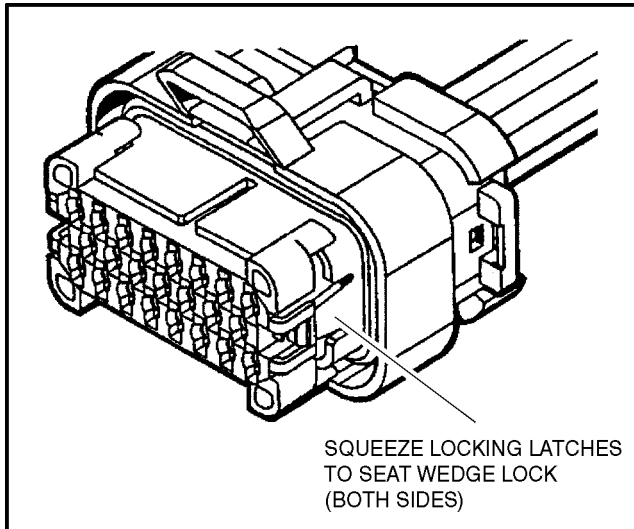

Figure 7-12. Connector Assembly (3 of 4)
3. After all required contacts have been inserted, the wedge lock must be closed to its locked position. Release the locking latches by squeezing them inward (See Figure 7-12., Connector Assembly (3 of 4)).